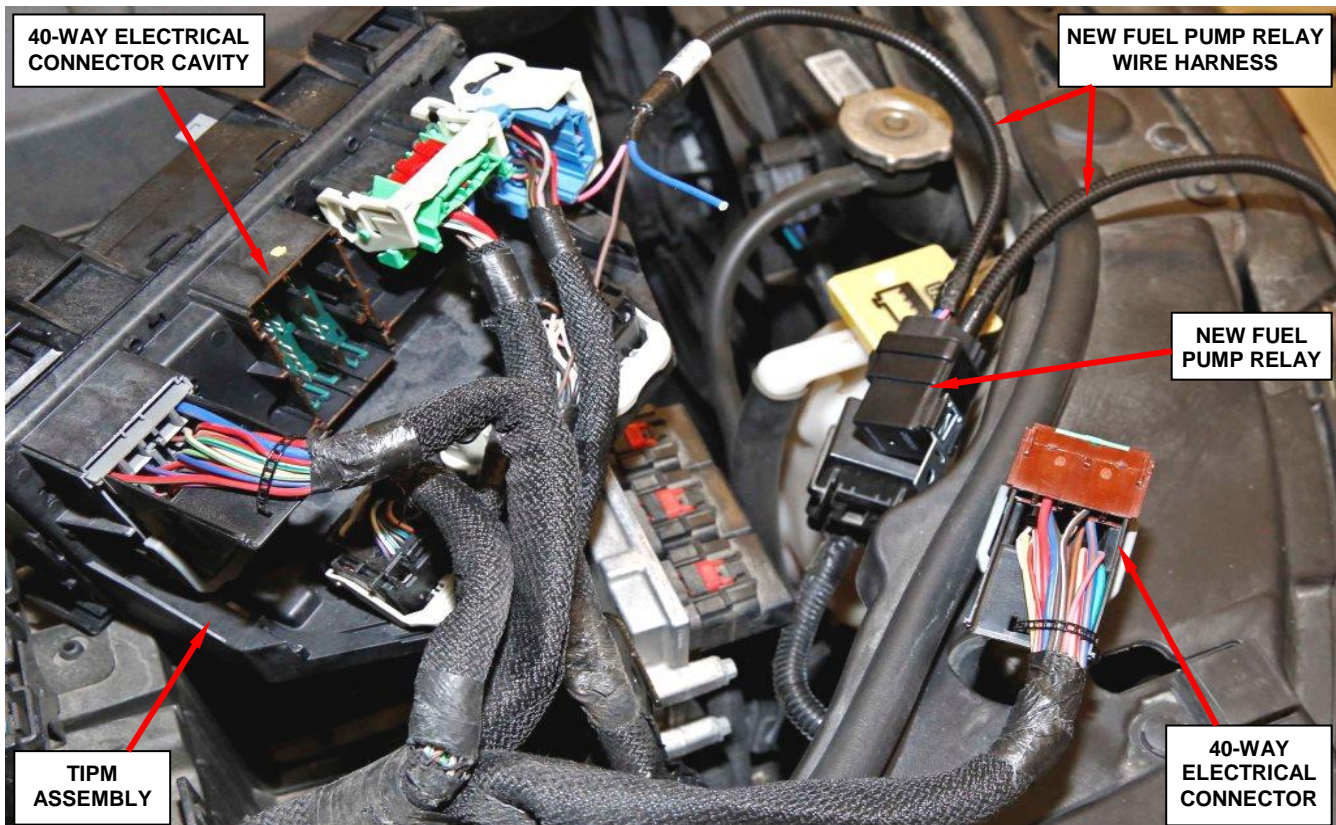

Figure 18 – TIPM 40-Way Electrical Connector
13. Unplug the 40-way electrical connector located on the bottom side of the TIPM (Figure 18).